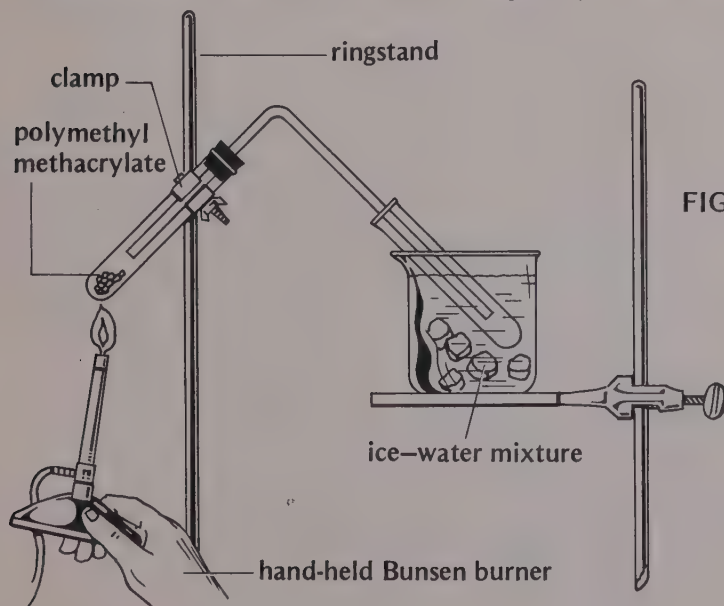

FIGURE 5-2: Laboratory setup for Experiment 5-1.
1. Place 5 g of granulated polymethyl methacrylate in an 18-mm x 150-mm test tube. Mount a piece of 8-mm glass tubing, with a right-angle bend, through a stopper in the test tube. Clamp the test tube at a 45° angle, as shown. (See Figure 5-2.) Insert the other end of the glass tube into a 13-mm x 100-mm test tube. Surround the second test tube with an ice-water mixture.